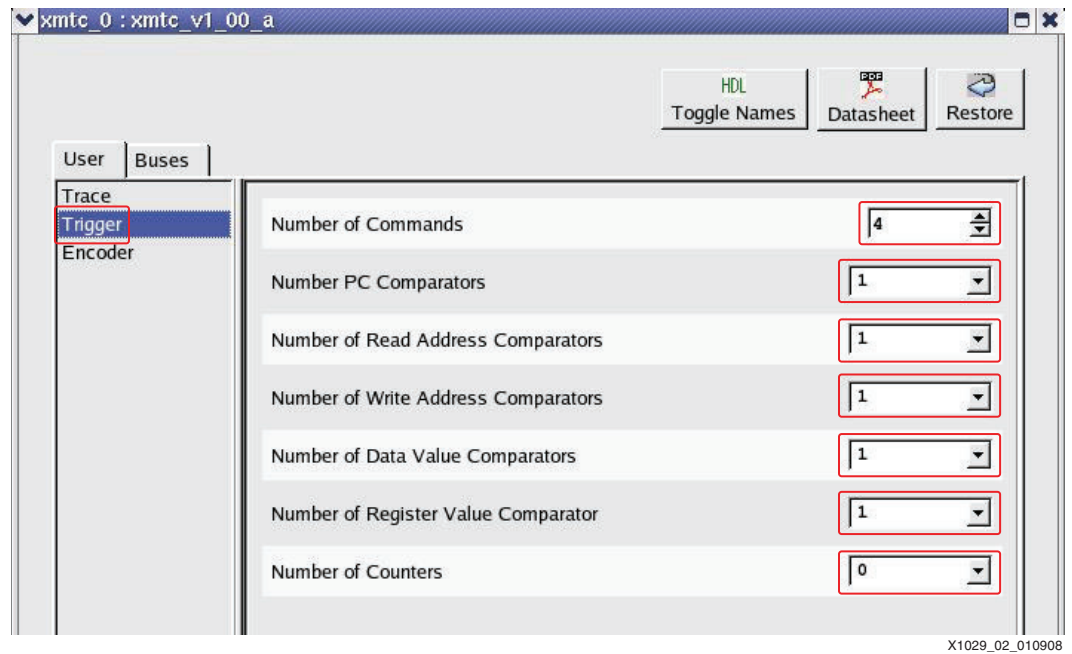

Figure 2: XMTC Configuration – Trigger Configuration
- d. Click on **Trigger**, then make the selections shown in Figure 2 to configure the number of comparators required for the particular triggering conditions requirements.